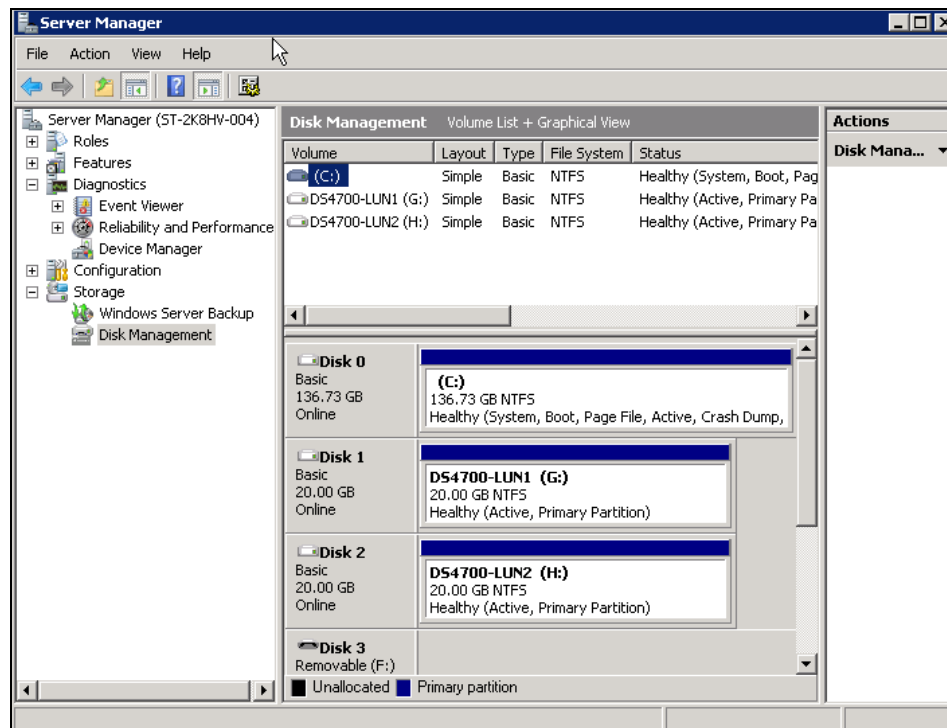

Figure 10-45 Disk Management
2. Select **Disk Management**. In the Disk Management panel, shown in Figure 10-45, we can select **Action** → **Rescan Disks**. When the disks appear in the disks pane, the signature can be written to them, and they can be formatted following the standard Microsoft Windows procedure for this task.
Figure 10-45 shows two IBM DS4700 LUNs formatted, with a drive letter ready to use.